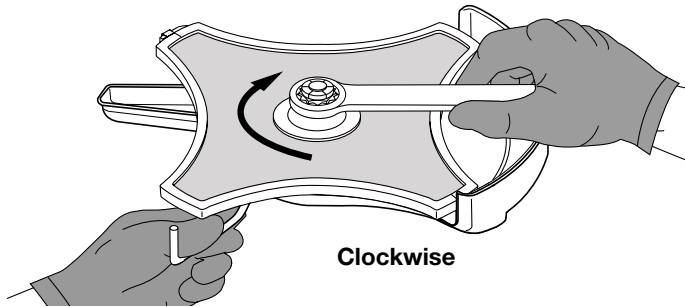

Fig. 15
3. While holding the locking rod, loosen the nut on the blade by turning it clockwise with a 5/8 inch closed-end or socket wrench (Fig. 15).